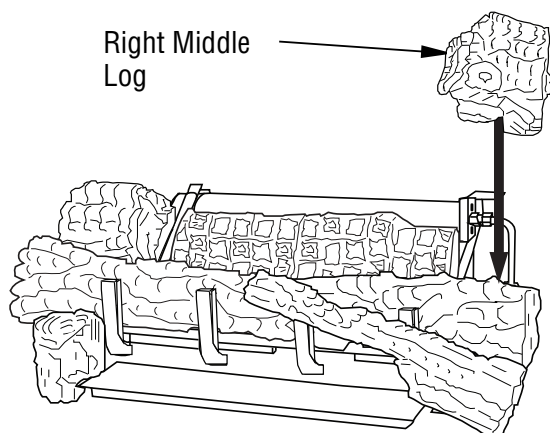

Figure 34 - Installing Right Middle Log
7. The right middle log (18" D-067, 24" & 30" D-041) has a groove on the bottom to sit on the chassis and has to sit on the tab on the back of the right front. The right middle log should have a recess area that fits around the ramp log as shown in **Figure 34**.